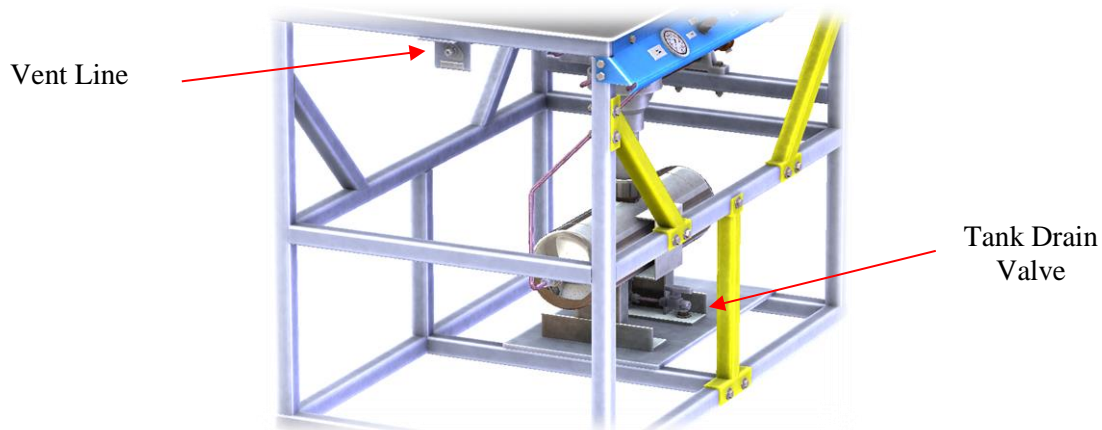

Figure 10: Left Side View
7. Connect the vent line on the side of the test stand to the vent stack or to another safe discharge place. See Figure 10.